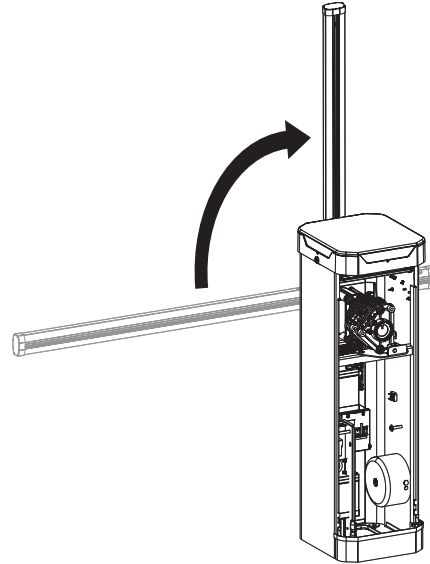

Figure 7
9. Loosen the arm bracket on the operator output shaft. Move the arm to the vertical position and retighten the arm bracket. See Figure 7.